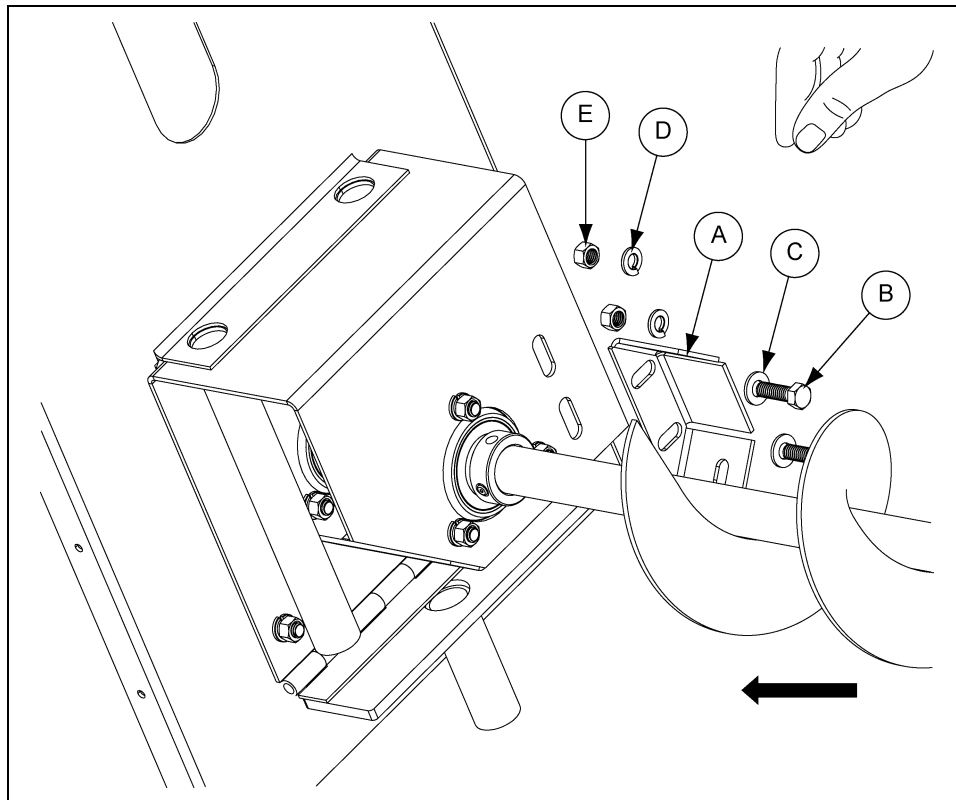

Figure 4H
Step 8: Fit shield mount plate. (See Figure 4H.)